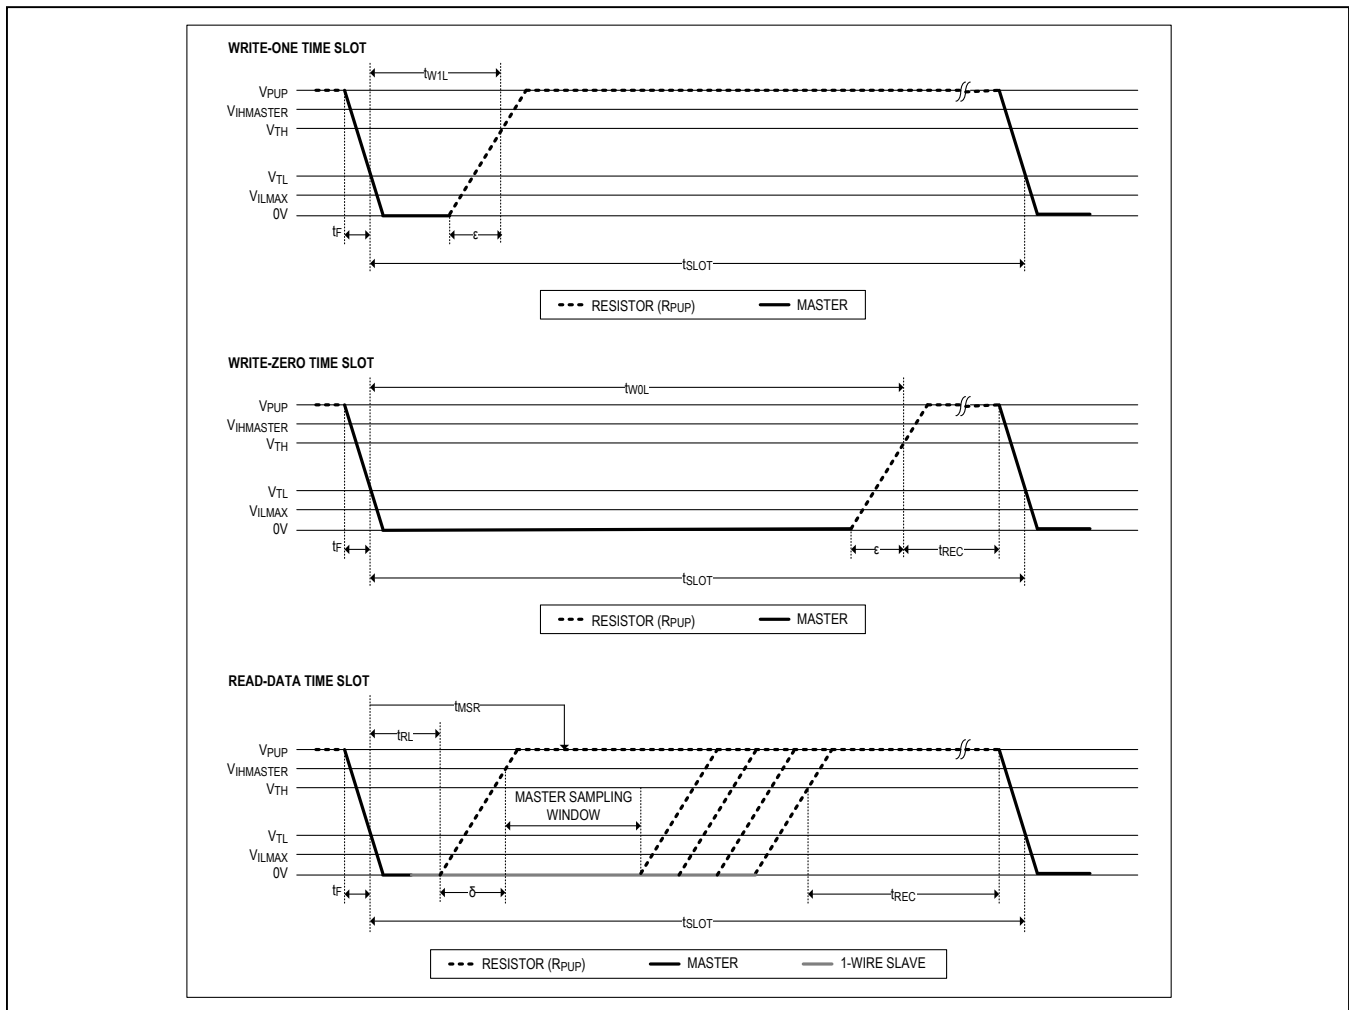

Figure 5. Read/Write Timing Diagrams
- Note 15:** System requirement.  $\epsilon$  in Figure 5 represents the time required for the pullup circuitry to pull the voltage on IO up from  $V_{IL}$  to  $V_{TH}$ . The actual maximum duration for the master to pull the line low is  $t_{W1LMAX} + t_F - \epsilon$  and  $t_{W0LMAX} + t_F - \epsilon$ , respectively.
- Note 16:** System requirement.  $\delta$  in Figure 5 represents the time required for the pullup circuitry to pull the voltage on IO up from  $V_{IL}$  to the input-high threshold of the bus master. The actual maximum duration for the master to pull the line low is  $t_{RLMAX} + t_F$ .
Data communication with the DS28E38 takes place in time slots that carry a single bit each. Write time slots transport data from bus master to slave. Read time slots transfer data from slave to master. Figure 5 illustrates the definitions of the write and read time slots.